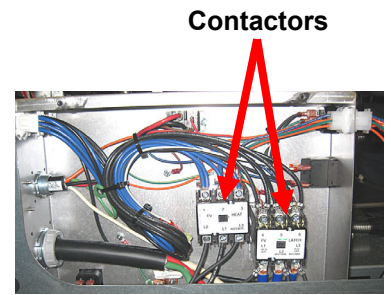

Figure 36
6. Remove the cover to expose the interior of the contactor box (see Figure 36).